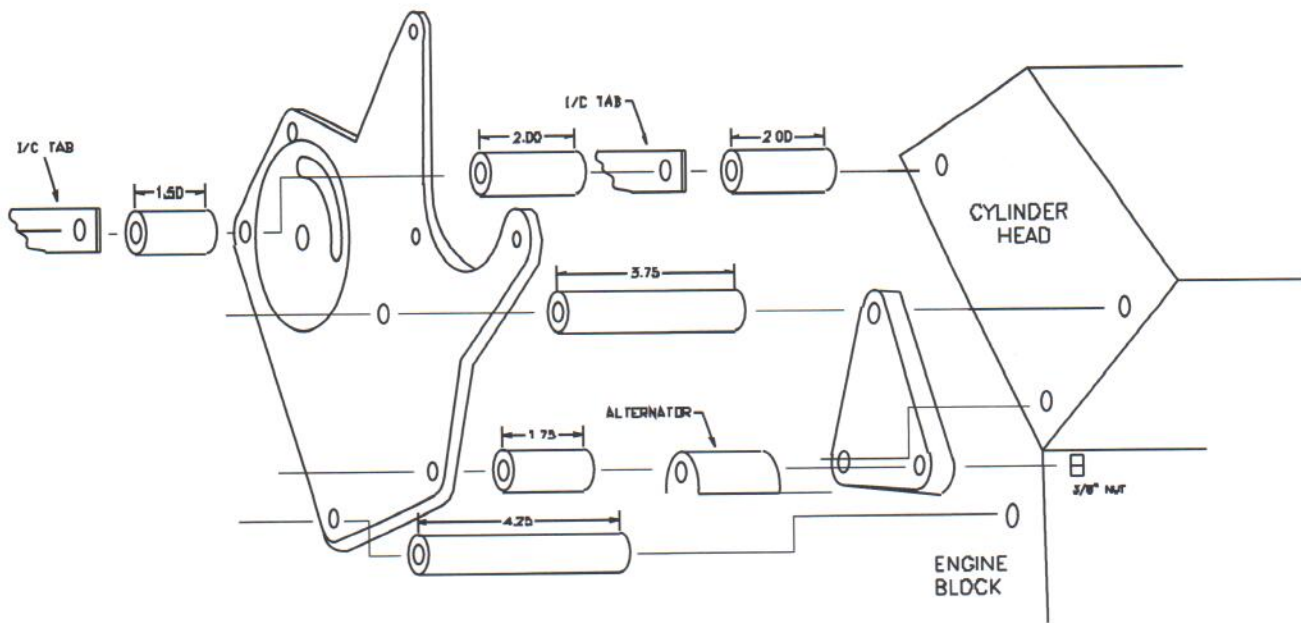

FIGURE D5
6. If you will be mounting your intercooler remotely, follow 6R and 7R, otherwise, proceed with 6 and 7. Take the intercooler (I/C). The I/C tabs should be on the bottom of the I/C with the side with two tabs facing the port side of the motor. Attach the starboard side tab to the power steering bracket and the starboard side head in the following sequence: I/C tab in front, then the .6" spacer, then hole C2 in the power steering bracket, then 1.40" spacer against the head. Run the 7/16" x 3.25" bolt through all four, and thread into the innermost head bolt hole. Leave slightly loose so that you can rotate the I/C into place on the port side. (see figures D5 and D7)